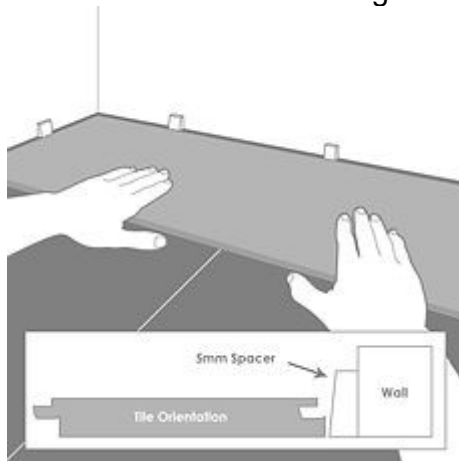

Figure 1
- 3.** Begin by laying the first row in the corner of the room on your left hand side as you are looking at the wall. Always work from left to right and with the tongue towards yourself (**Fig 1**).